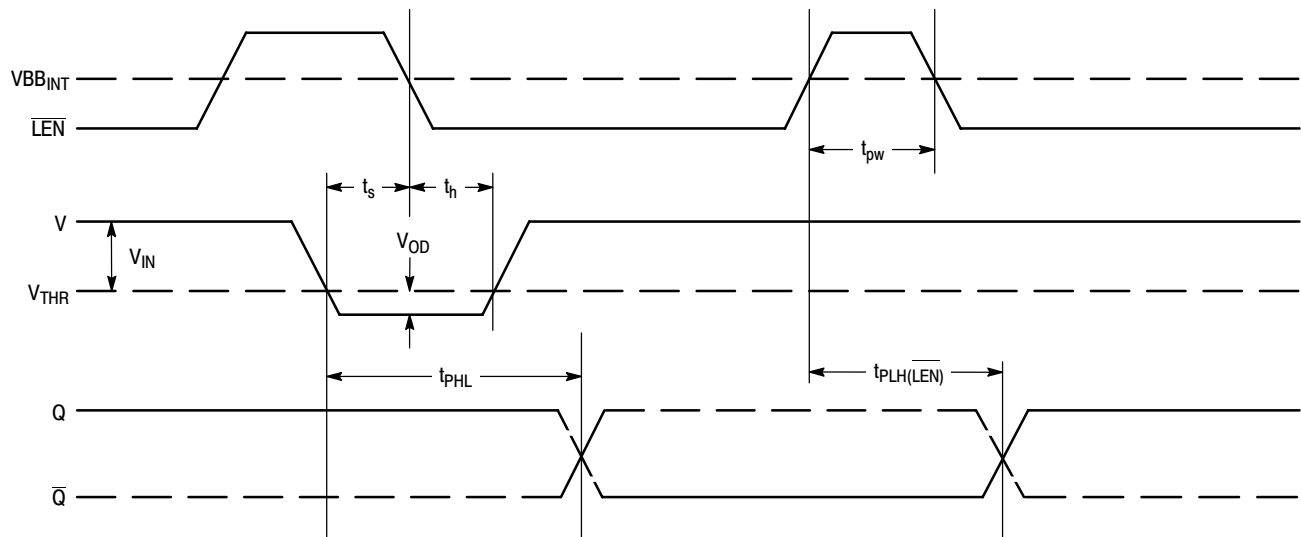

Figure 5. Input/Output Timing Diagram
12. Refer to Figure 5 and note that the input is at 2.5 V TTL levels with the input threshold range between the 20% and 80% points. The delay is measured from the crosspoint of the input signal and the threshold value to the crosspoint of the Q and  $\bar{Q}$  output signals.
The timing diagram (Figure 5.) is presented to illustrate the MC10E1652's compare and latch features. When the signal on the  $\overline{\text{LEN}}$  pin is at a logic high level, the device is operating in the "compare mode," and the signal on the input arrives at the output after a nominal propagation delay ( $t_{\text{PHL}}$ ,  $t_{\text{PLH}}$ ). The input signal must be asserted for a time,  $t_s$ , prior to the negative going transition on  $\overline{\text{LEN}}$  and held for a time,  $t_h$ , after the  $\overline{\text{LEN}}$  transition. After time  $t_h$ , the latch is operating in the "latch mode," thus transitions on the input do not appear at the output. The device continues to operate in the "latch mode" until the latch is asserted once again. Moreover, the  $\overline{\text{LEN}}$  pulse must meet the minimum pulse width ( $t_{\text{pw}}$ ) requirement to effect the correct input-output relationship. Note that the  $\overline{\text{LEN}}$  waveform in Figure 5. shows the  $\overline{\text{LEN}}$  signal swinging around a reference labeled  $V_{\text{BBINT}}$ ; this waveform emphasizes the requirement that  $\overline{\text{LEN}}$  follow typical ECL 10KH logic levels because